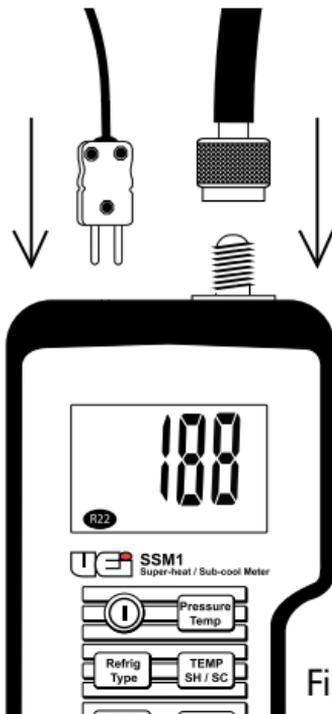

Fig. 1
1. Connect a standard refrigerant hose to the  $\frac{1}{4}$ " flare connector on top of the SSM1. (Fig.1) -OR- Connect the SSM1 in-line to a refrigerant source using the tee fitting (Fig.2)
2. Connect the included pipe clamp probe to the k-type input jack on top of the SSM1. (Fig. 1)